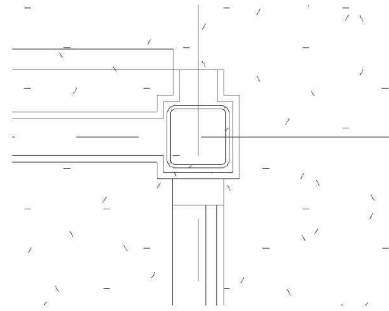

FIGURE 11-4.10
43. **Drag** the end grips so they align with the column furring (Figure 11-4.10).